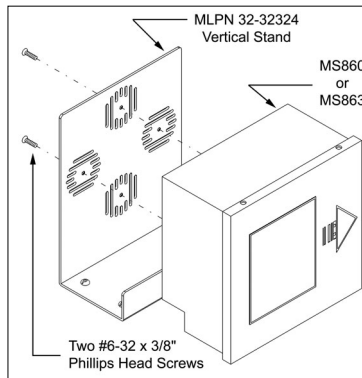

Figure 4
3. Secure the unit to the stand using the four #6-32 x 3/8" screws provided (See Figure 4).